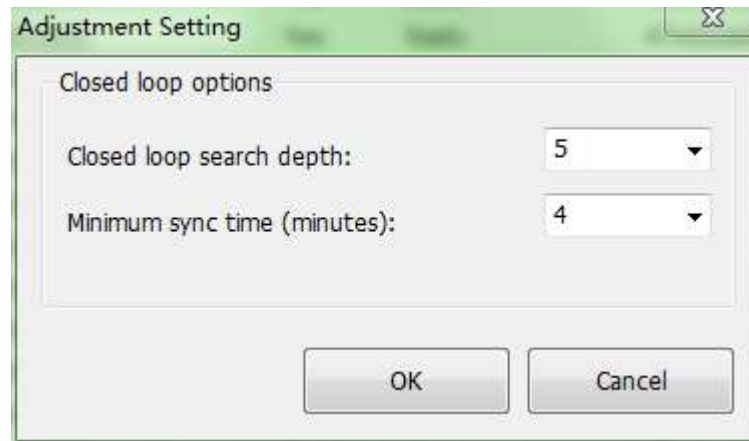

Figure 2-8
- a. Click [Adjustment] - [Adjustment Settings] as shown in Figure 2-8.